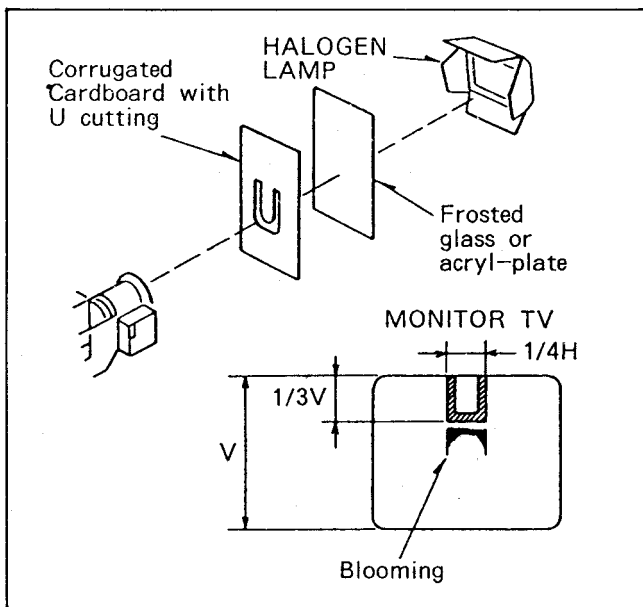

Fig. C12
- Zoom all the way in (full tele position or full wide position) and aim the camera at the Halogen Lamp as shown in Fig.C12.
- Diffuse the incoming light using frosted glass or acryl plate. Place the cardboard which has been cut to "U" shape as shown in Fig.C12. between the diffusion plate and the camera.